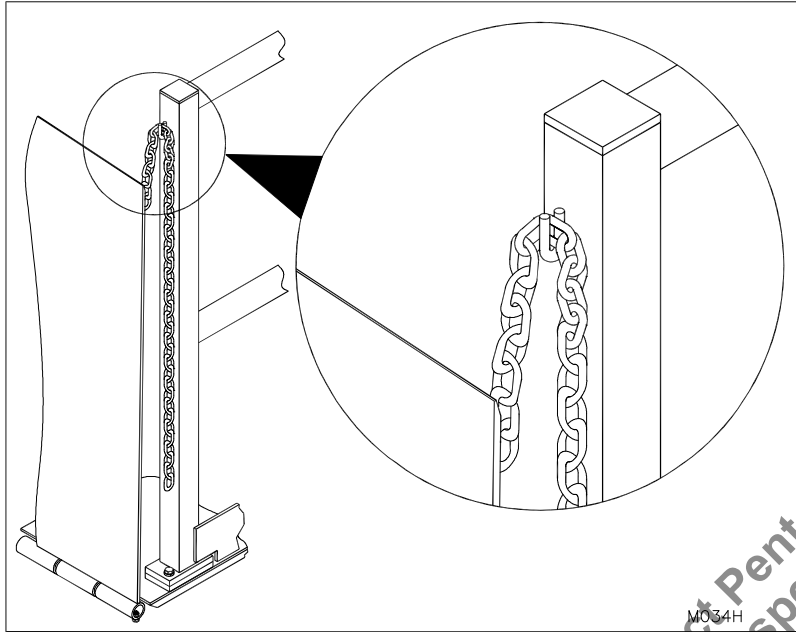
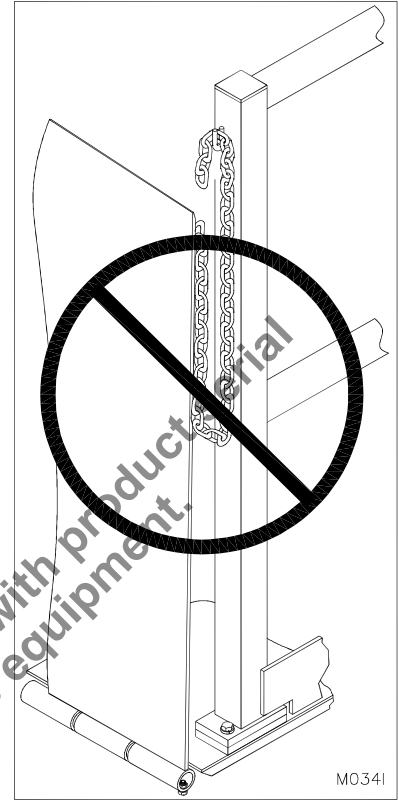

Figure 7: Hinged Bridge in Vertically Stored Position
Figure 8: Hinged Bridge Not Properly Secured (See Figure 7)
7. When not in use, the platform should be in the lowered position with the hinged bridge(s) in an upright vertically stored position with the hinged bridge chain(s) engaged. (See "Figure 7: Hinged Bridge in Vertically Stored Position" on page 14 and "Figure 8: Hinged Bridge Not Properly Secured (See Figure 7)" on page 14).